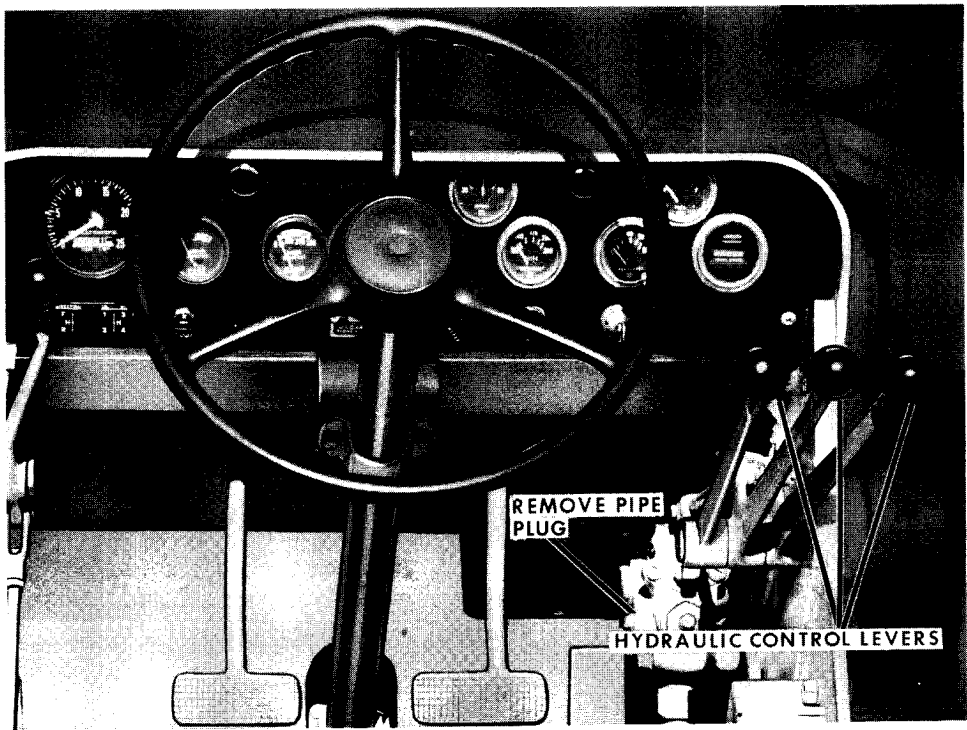

Figure 69
2. Turn off the engine and relieve hydraulic pressure in the lines by working the control levers back and forth several times, Figure 69.
3. Place a receptical under the hydraulic control valve body and remove the small pipe plug shown in Figure 69.